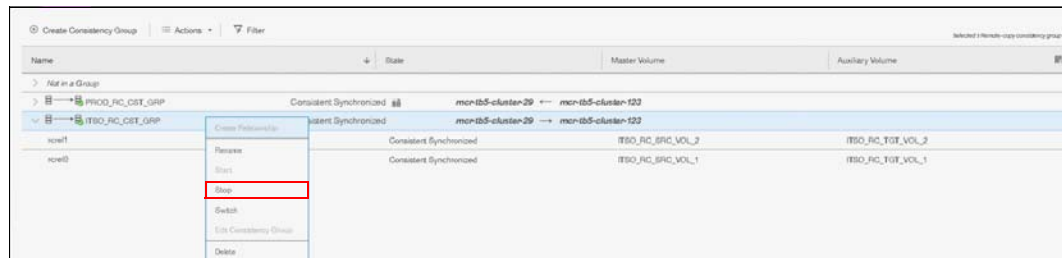

Figure 10-148 Selecting the Stop option
3. Click **Actions** → **Stop** (as shown in Figure 10-148 on page 588) to stop the remote copy Consistency Group.